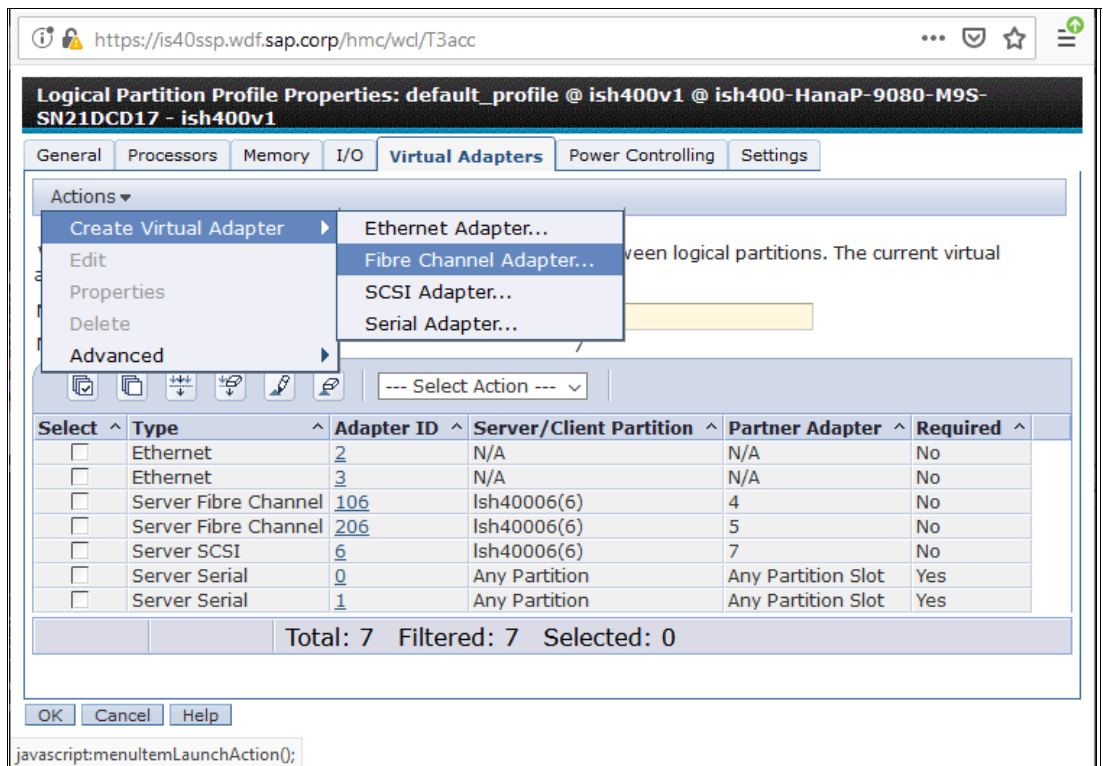

Figure 2-7 Creating a virtual Fibre Channel adapter on the HMC
- c. To create a virtual FC server adapter, select the profile to use and open it by using the **Edit** action. Then, click the **Virtual Adapters** tab and select **Actions** → **Create Virtual Adapter** → **Fibre Channel Adapter**, as shown in Figure 2-7.